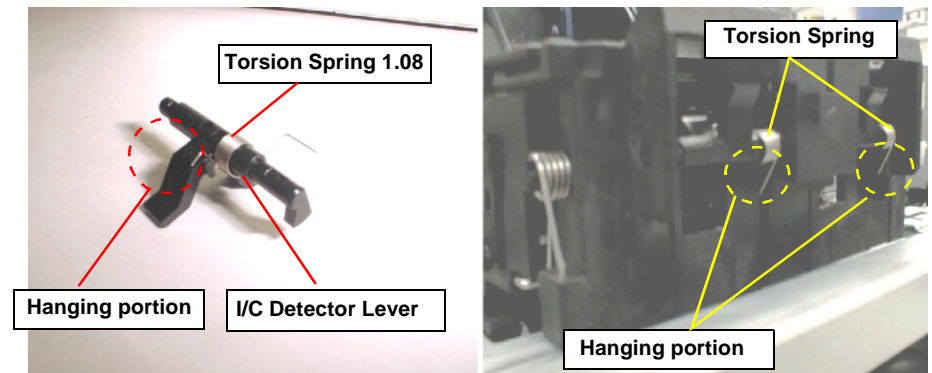

Figure 4-46. Assembling the I/C Detector Lever
- Make sure that the Torsion Spring 1.08 is hung on the protrusion of the I/C Detector Lever and the hook on the CR frame correctly. Refer to the Figure 4-46.